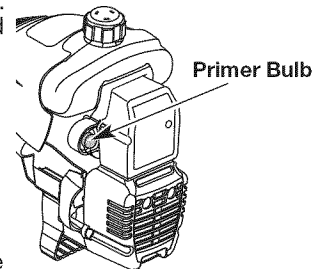

Fig. 3
3. Fully press and release the primer bulb 10 times, slowly. Some amount of fuel should be visible in the primer bulb and fuel lines (Fig. 3). If you can't see fuel in the bulb, press and release the bulb as many times as it takes until you can see fuel in it.